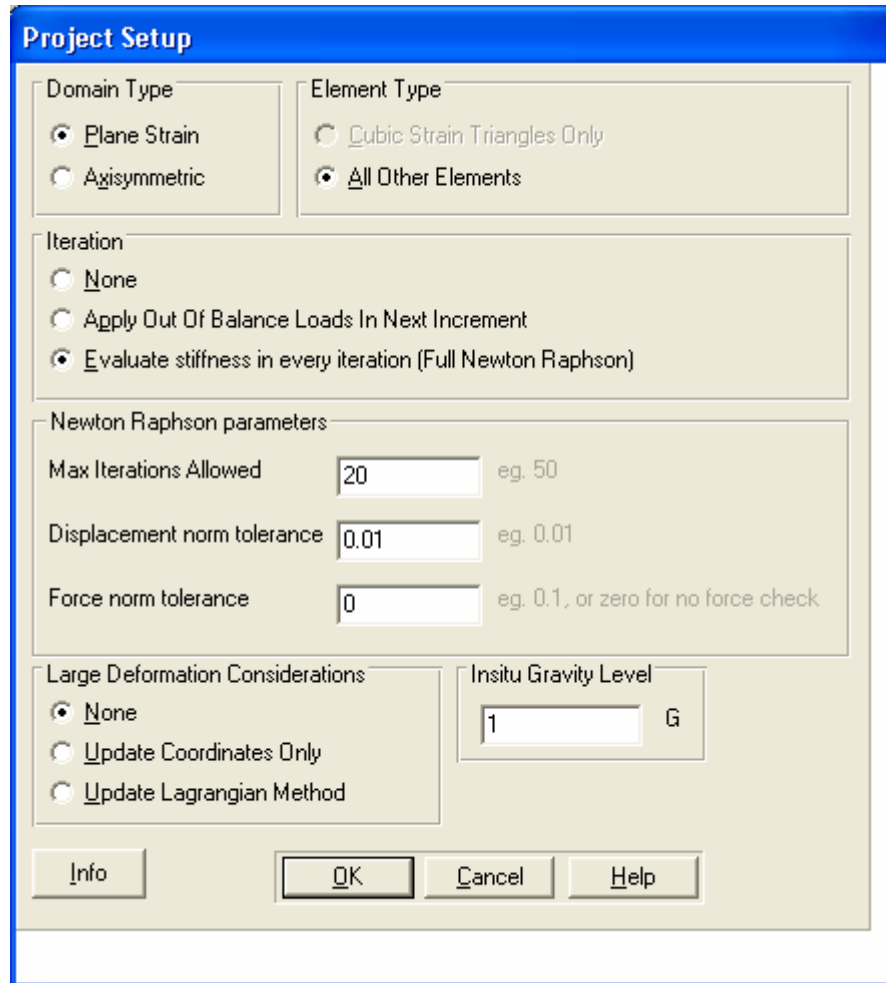

Figure 3 Project Setup dialogue box
- Step 3** The Project Setup dialogue box should now look similar to Figure 3.